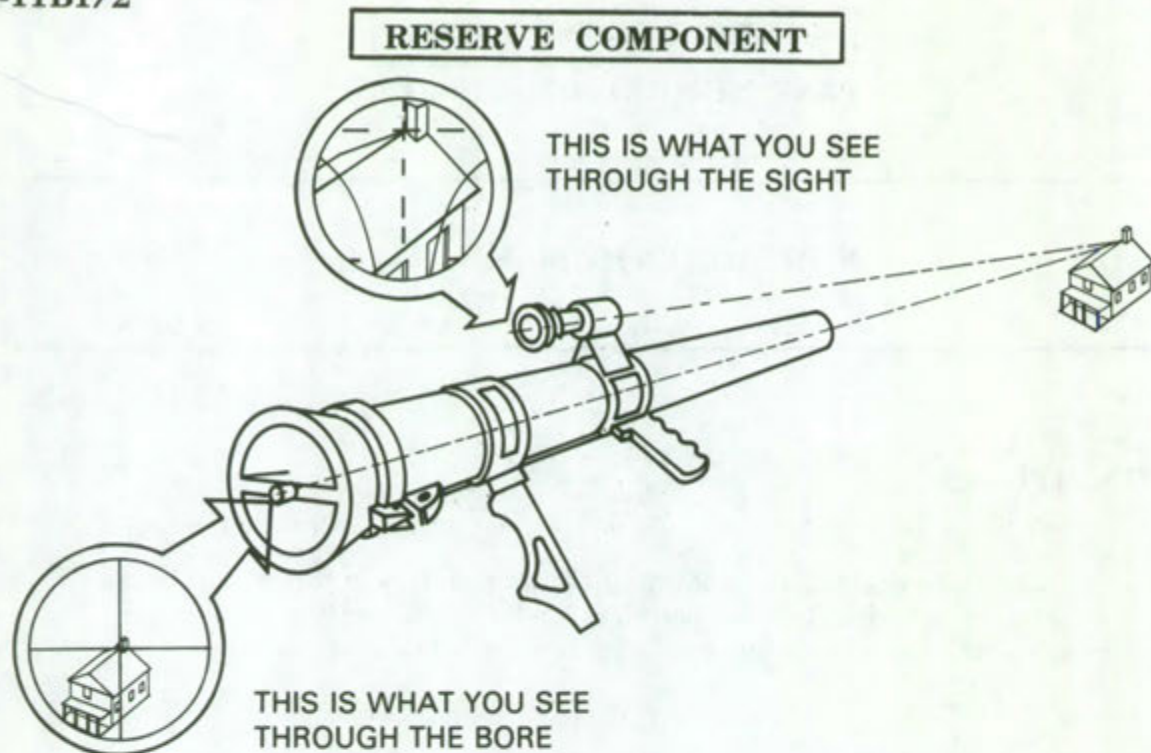

Figure 1.
Within 5 minutes, align both the sight and the bore so that the edge of the target is aligned at the same point of intersection of both sets of crosshairs (figure 1).
4. Look through the telescope and insure that the boresight cross of the sight reticle is alined on the aiming point at the same point of intersection of both sets of crosshairs. If the boresight is not alined, bring it to the aiming point by rotating the elevation and azimuth correction screws with either the screwdriver end of the combination wrench or a small screwdriver. Recheck the alinement through the bore and through the sight. When the sight and the bore are properly alined on the aiming point, the 90-mm RCLR is boresighted (figure 1).